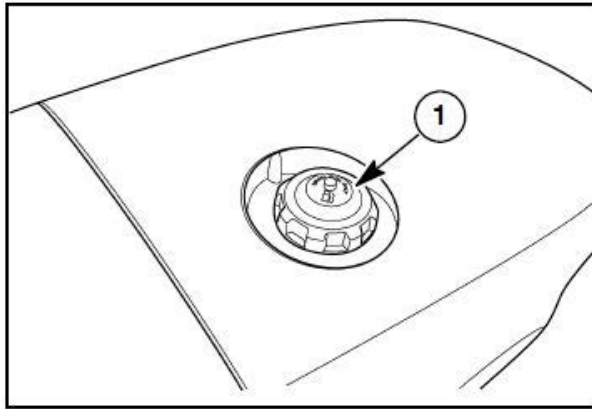

Figure 3-1
The fuel tank filler cap (1) in Figure 3-1, is located at the rear of the front fender. Before removing the cap, wipe all dust and dirt from around the cap to prevent debris from falling into the tank during filling.